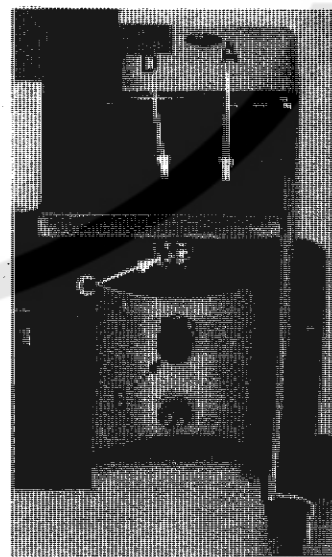

Fig. 3
**CAUTION:** When removing the cloth plate (A, Fig. 3) loosen the cloth plate stud locking screw (B) and lift up cloth plate with the cloth plate stud (C) and cloth plate screw (D) assembled.